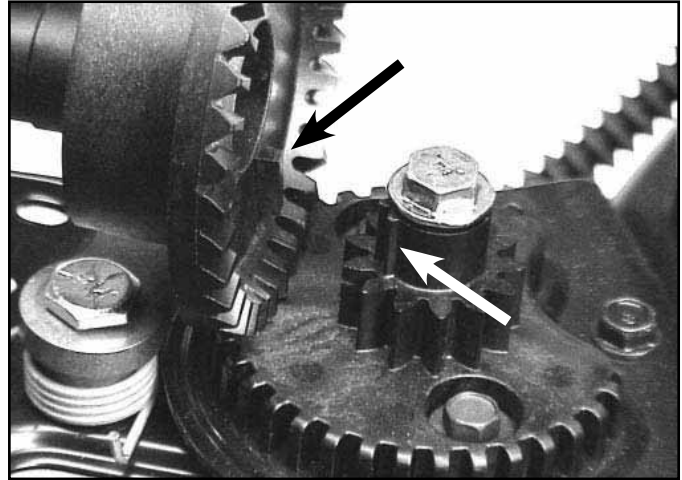

Fig 225
4. The face gear has a rib molded into it and the chute gear has 2. Line up the ribs and place the face gear mount onto the support tube (Fig. 225).